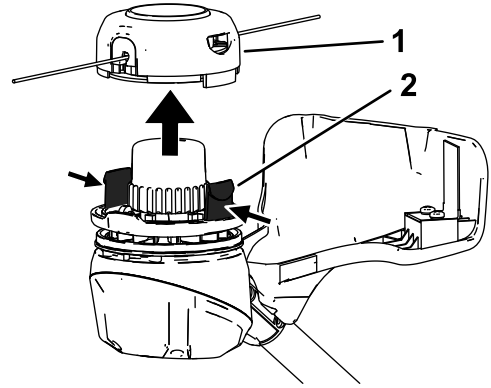

Figure 14
2. Press the tabs simultaneously on the side of the trimmer head and remove cover and spool (Figure 14).